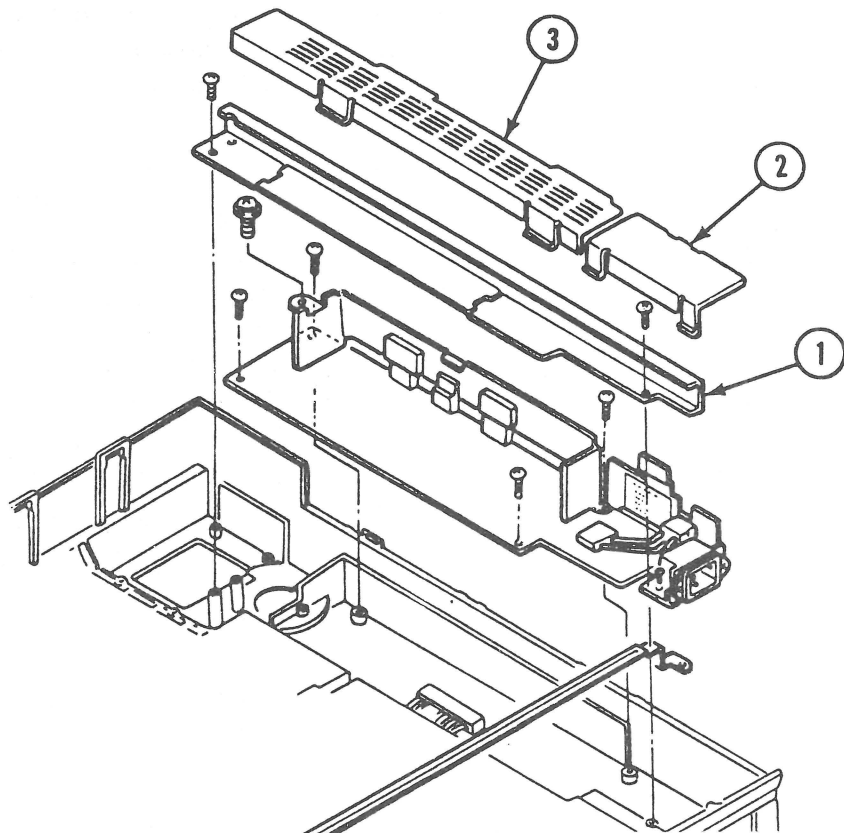

FIGURE 26
4. Remove the left-side guide rail (Figure 26, #1) next by removing the three screws. When the rail is removed, the inside housing cover will come with it (Figure 26, #2).
5. Unscrew the one screw from the black shield plate (Figure 26, #3), and remove the plate by sliding it to the right side and then up.